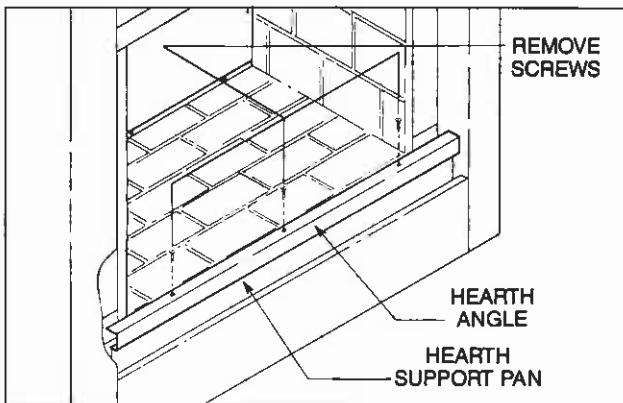

Fig. 2. Removing hearth angle.
1. Remove the three (3) screws that retain the hearth angle from hearth support pan on MST36 fireplace. The angle should then be removed and discarded. (See Fig. 2).